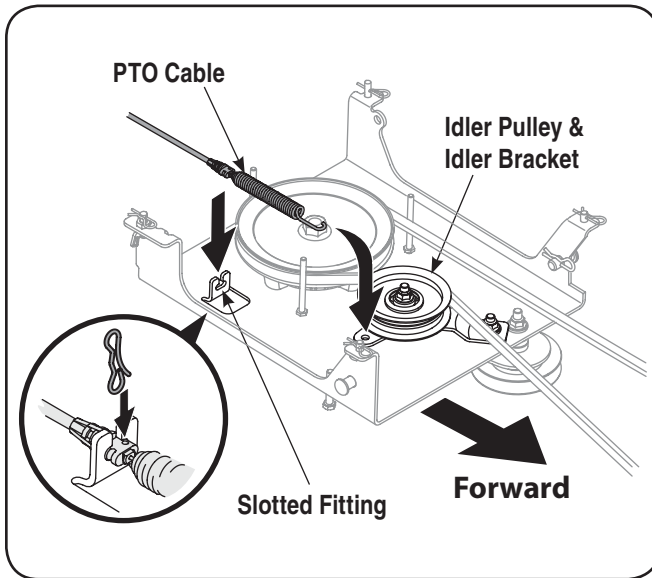

Figure 3-3
2. Attach the PTO cable to the idler bracket, then fit the cable into the slotted fitting as seen in Fig. 3-3.